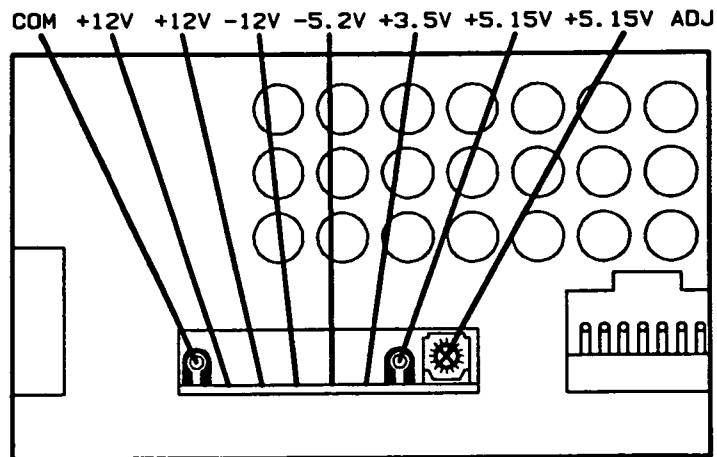

Figure 2-4.
14. Connect the positive lead of the digital multimeter to the test point labeled "+5.15 V" in figure 2-4.
16. If the digital multimeter reading is not within this range, adjust the potentiometer labeled "+5.15 ADJ" until the digital multimeter reading is +5.15 V \pm 0.05 V. See figure 2-4.